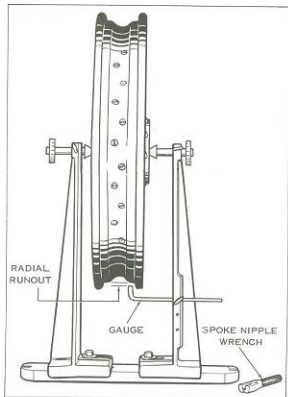

Figure 2-25. Truing Rim Concentric with Hub
7. After rim has been centered sideways with wheel hub and runs true sideways, check it for concentricity. Adjust truing stand gauge to rim tire bead seat as shown in Figure 2-25. If rim runs eccentric (radial runout), nipples must be loosened at points rim does not contact gauge, and nipples tightened at points rim contacts gauge. Amount nipples are to be loosened or tightened is determined by the amount rim is out of round. Rim should be trued to 1/32 in. or less radial runout.